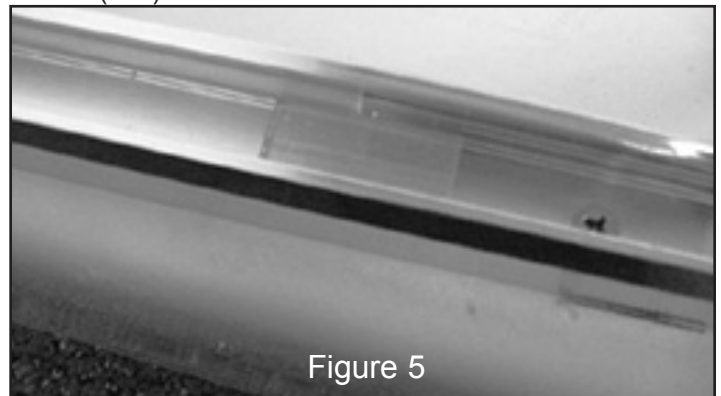

Figure 5
A. Place the two Setting Blocks (#15) into the Bottom Curb/Sill (#2) (See Figure 5). Place the In-Line Glass Panel (#22) into the Bottom Curb/Sill (#2) on top of the Setting Blocks (#15).